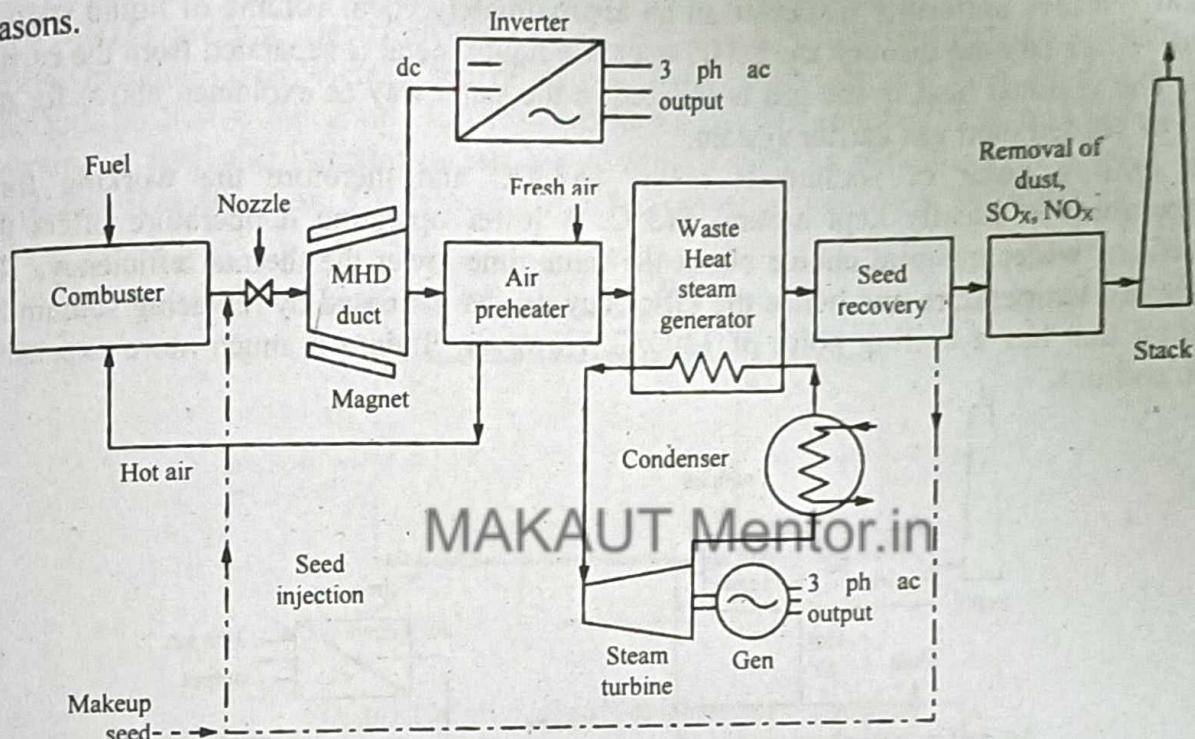

Fig: 1 Open-cycle MHD generating system
b) The open-cycle system is shown in Fig. 1. Hot flue gases at about $2300\text{-}2700^\circ\text{C}$, obtained from burning of coal (or other fuel) in a combustor are used as working fluid, after mixing with seed material. Aqueous potassium carbonate is generally sprayed for the purpose of seeding. To attain such a high temperature, compressed air is preheated at